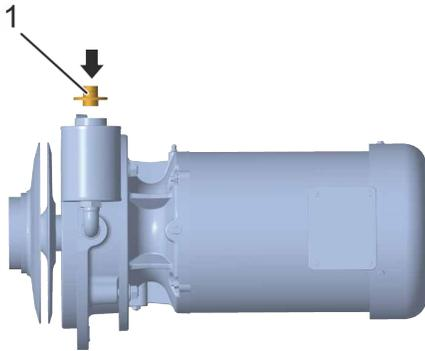

Fig. 71 Seal Guard system compensation tank cap (example: herborner.F-N)
Lay the rest of the disassembled pump down horizontally (Fig. 71).
26. Remove the cap of the Seal Guard system compensation tank (Fig. 71/1) and place it to one side for later assembly.